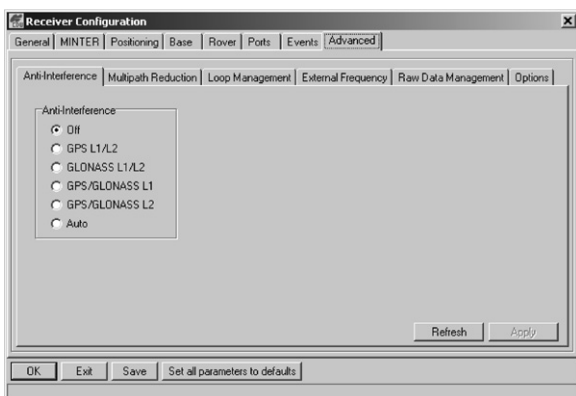

Figure 2-8. Receiver Configuration – Advanced Tab
- Click the **Advanced** tab on the Receiver Configuration screen (Figure 2-8).